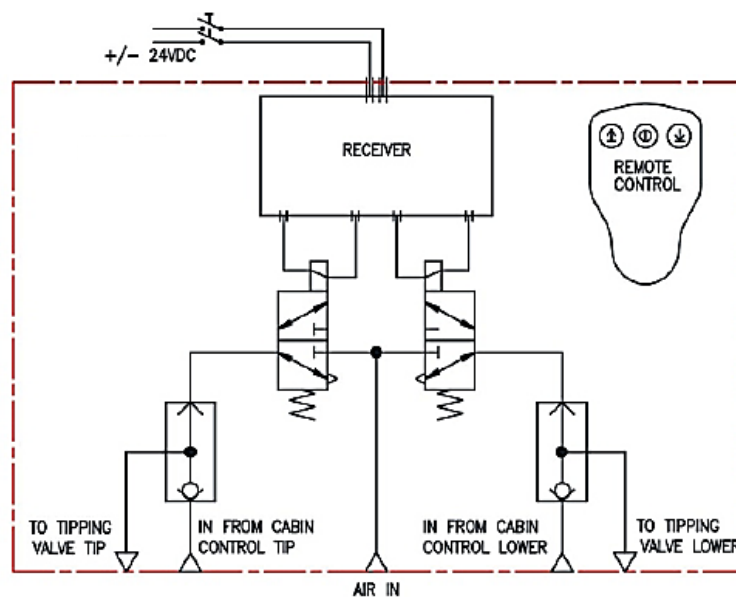

Figure 1: Schematic diagram
- Connect the pneumatic hoses according to the system lay-out shown in **Figure 1** .